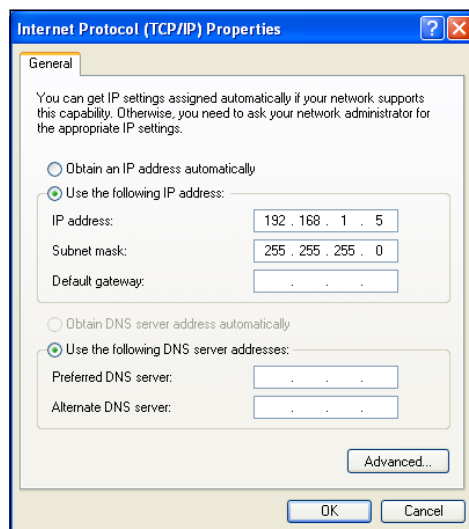

Figure 8: Internet Protocol Properties Window
- 6.) *Select the radio button in front of **Use the following IP address (Figure 8)** and **write down** the current defaults so that you can re-enter them when you finish configuring the PT-Link II and then **type in** the following information:*
- 6.) *Choose **Internet Protocol Version 4 (TCP/IPv4)** by highlighting it and then click **<Properties>**. The *Internet Protocol Properties Window* will appear (**Figure 8**).*
- 7.) *Select the radio button in front of **Use the following IP address (Figure 8)** and write down the current defaults so that you can re-enter them when you finish configuring the PT-Link II and then type in the following information:*